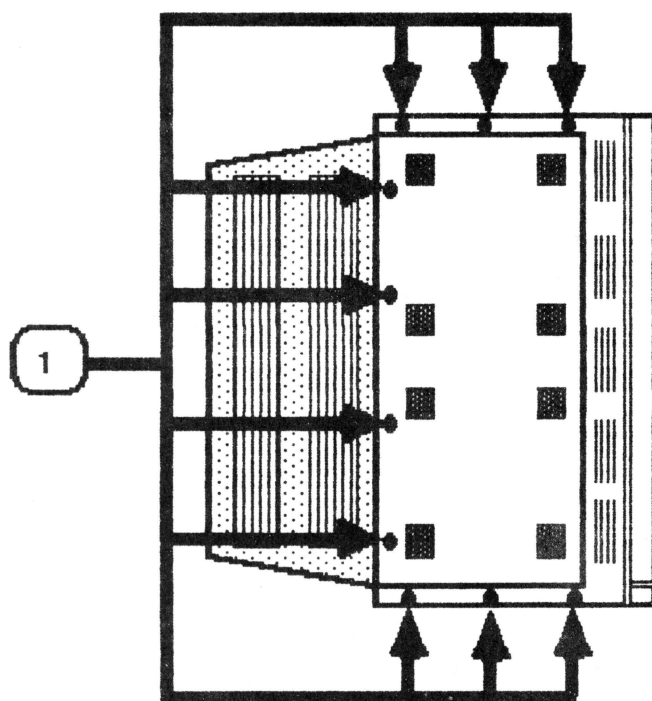

FIGURE 1
4. Remove the ten screws shown in Figure 1, #1.
4. Carefully set the monitor on its side with the bottom facing you and replace the ten screws shown in Figure 1, #1.